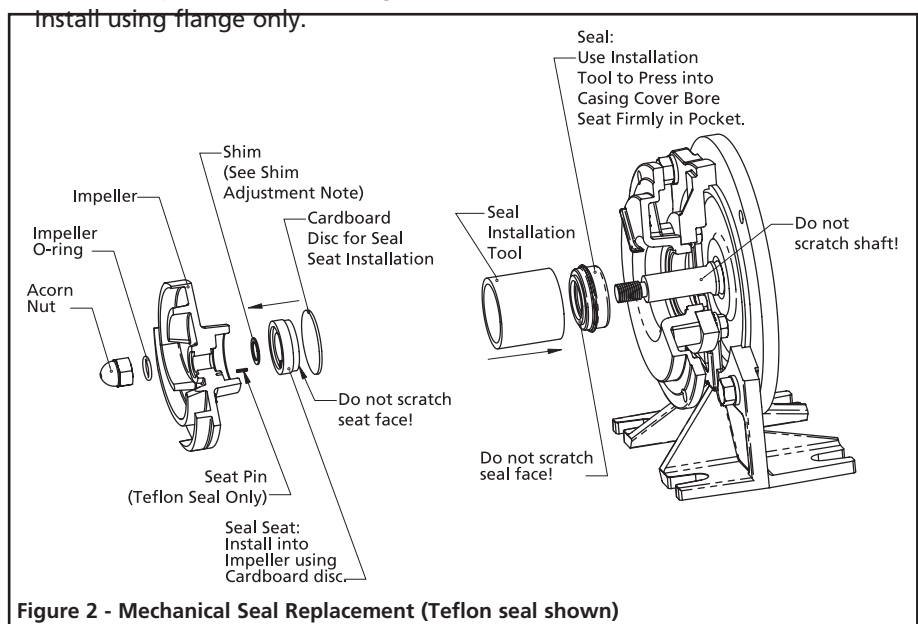

Figure 2 - Mechanical Seal Replacement (Teflon seal shown)
Refer to Figures 2, 3 and 4.
8. Apply a light coat of sealing compound to new seal cartridge (See Figure 2) and press it into the casing housing cover recess (Ref. No. 6) using the proper size tube or installation tool (See Figure 3). DO NOT press on carbon face or top of metal cup of the seal cartridge.
10. Press new seal seat (Ref. No. 11) squarely into the impeller recess (Ref. No. 13). Align slot in the seal seat with seal seat pin on Teflon-equipped units. Avoid scratching the ceramic surface. Use the cardboard washer (usually supplied with new seal) to place over the polished ceramic surface and use a piece of pipe or dowel rod to press in firmly but gently (See figure 2). Avoid scratching the ceramic face, usually white.